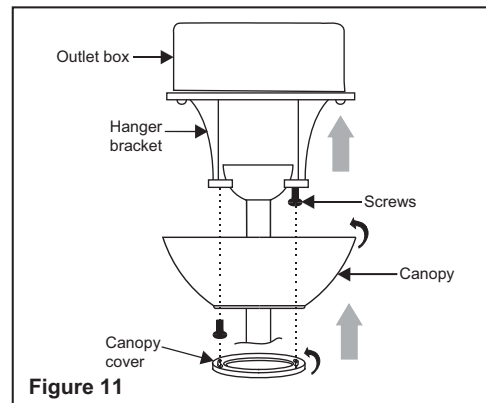

Figure 11
Step 2. Slide the canopy up to mounting bracket and place the key hole on the canopy over the screw on the mounting bracket, turn canopy until it locks in place at the narrow section of the key holes. (Fig. 11)